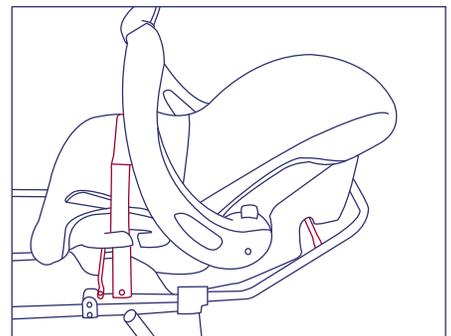

Fig. 3
1. With one hand grasp the car seat handle (in its upright, carrying position) and gently place the seat, so that the baby faces the rear of the Double Snap-N-Go®, onto the Double Snap-N-Go® so that the large groove on the seat bottom, nearest the head-end of the seat, hooks over the Crossbar C/B1 combination in the front position or hooks over the top section of the Double Snap-N-Go® frame in the rear position. Check that the seat locked onto the Crossbar or frame. See Figure 3. **FOR SAFE OPERATION, IT IS VERY IMPORTANT THAT THE SEAT LOCK SECURELY ONTO THE CROSSBAR OR FRAME.**